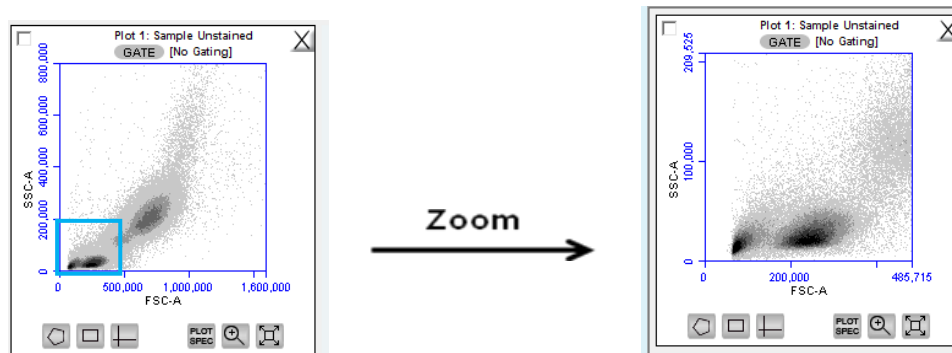

Figure 3-33. Before and After Using Zoom Tool
- Click and drag the mouse in the plot to draw a zoom area (Figure 3-33).